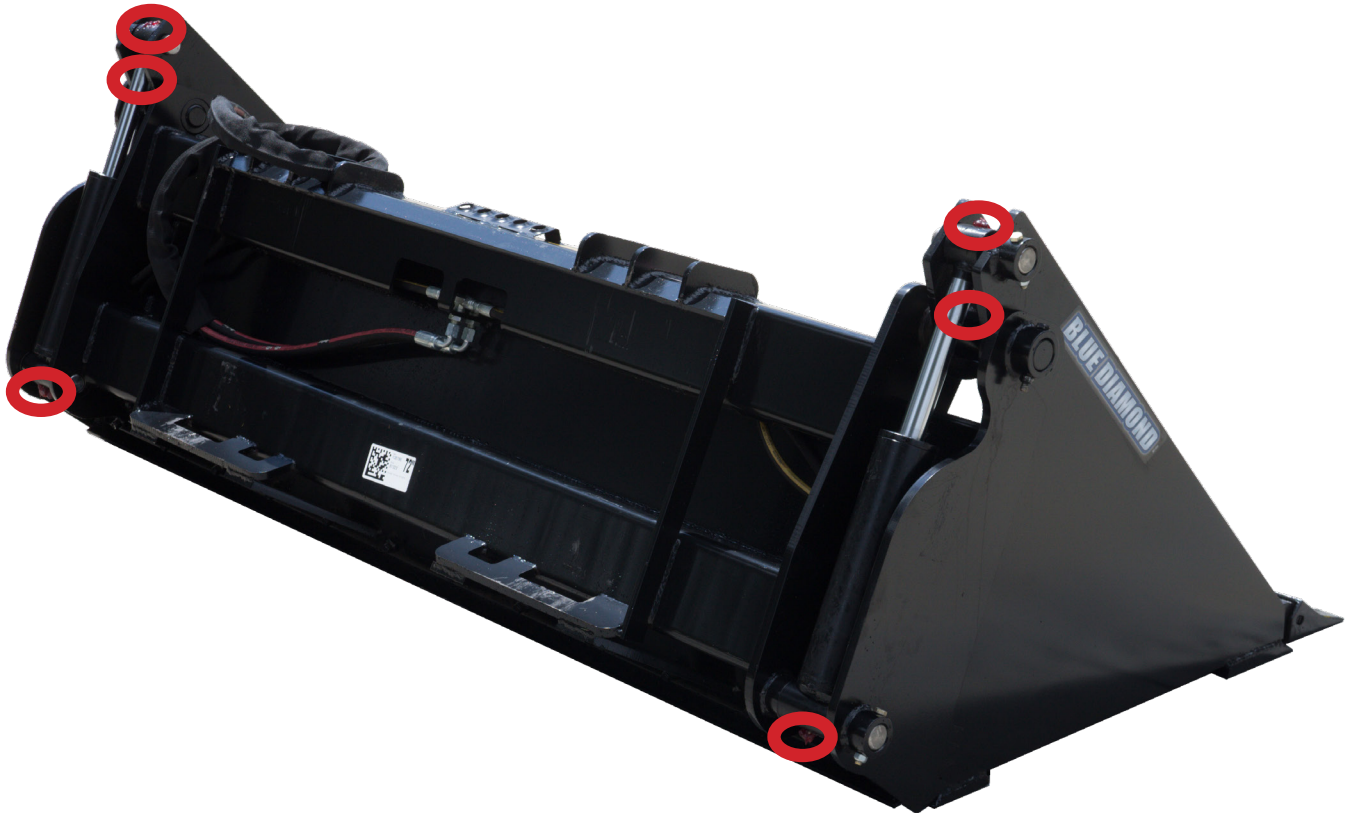

Figure 1
Lubricate all grease points as shown in Figure 1 on page 18.
There are six (6) grease points on the log grapples. See Figure 1 for each location. The attachment does not need disassembled for greasing.